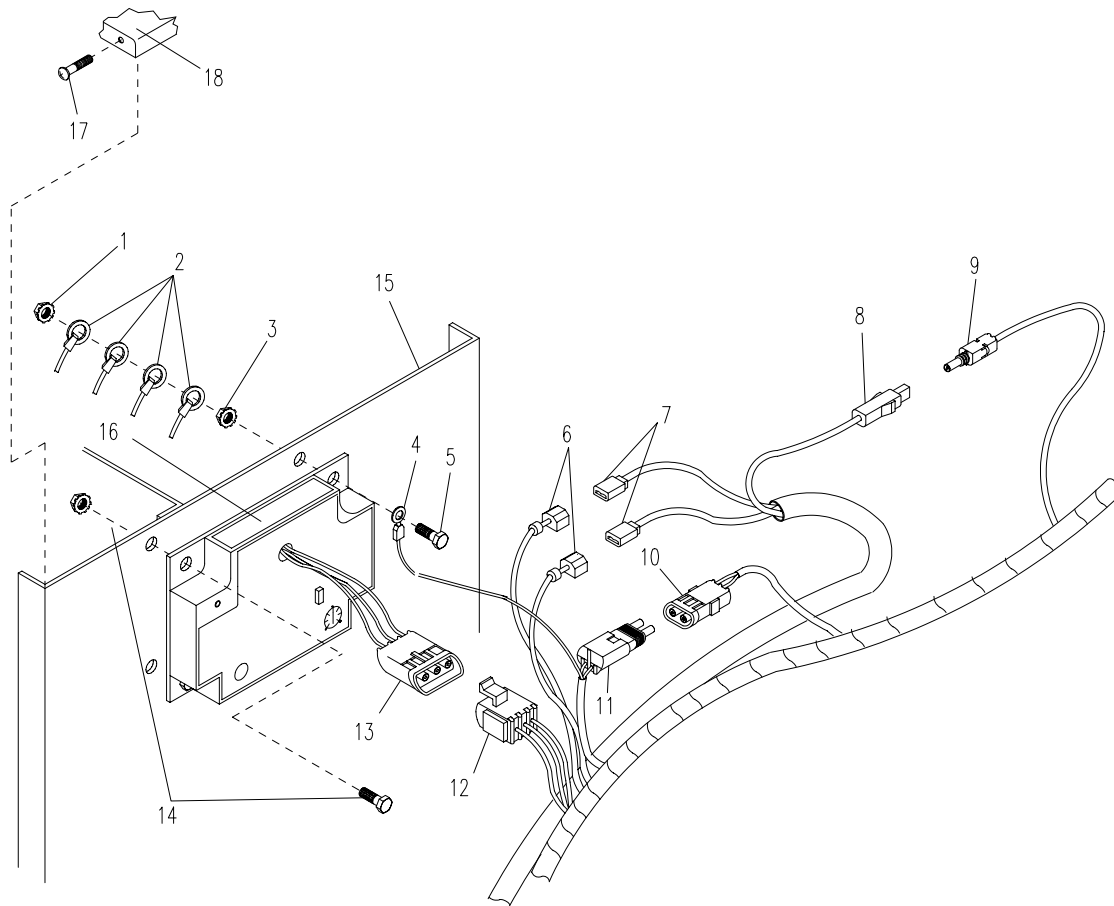

Figure 4-36. Governor Control Assembly
- a. Remove top cover (18, Figure 4-36).
- a. Tag and disconnect connectors J4 (12, Figure 4-36), J5 (10), and J6 (9).
- c. Remove four screws (17) (bolts, SICPS), and remove generator housing top cover (18).